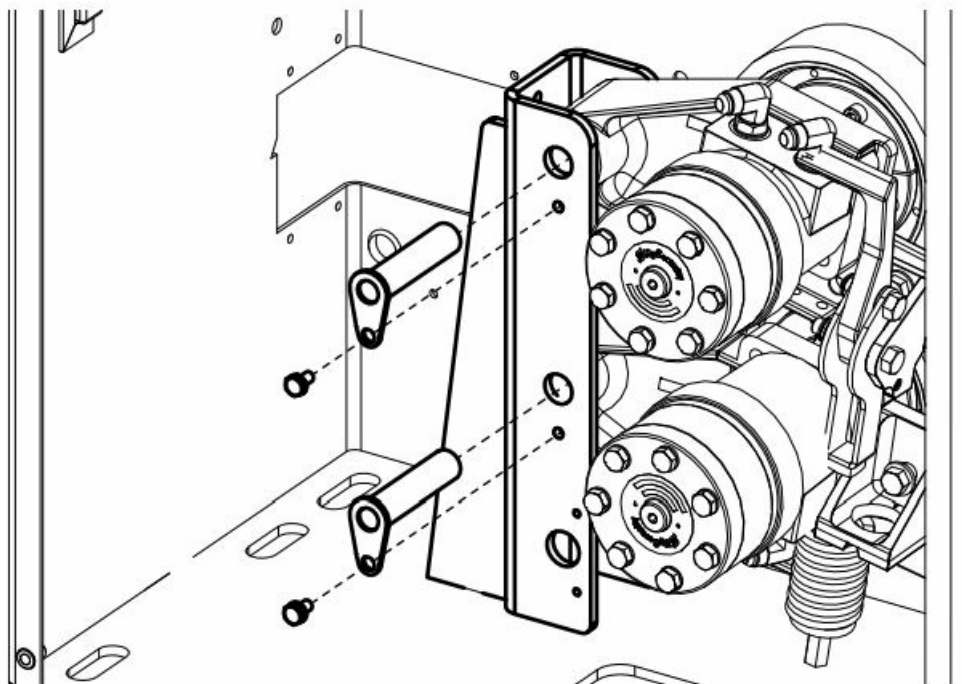

Figure 5. Remove Pivot Arm Pins
8. Remove the pins. Lift the pivot arms to make the pins easier to remove (Figure 5).